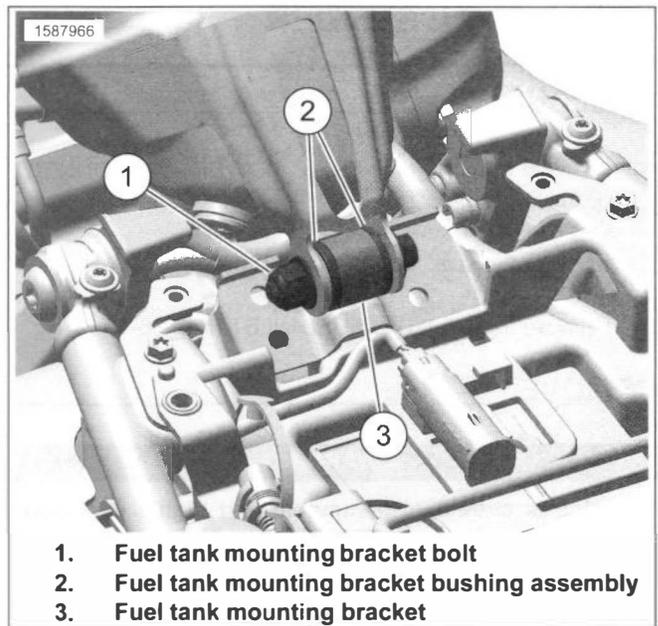
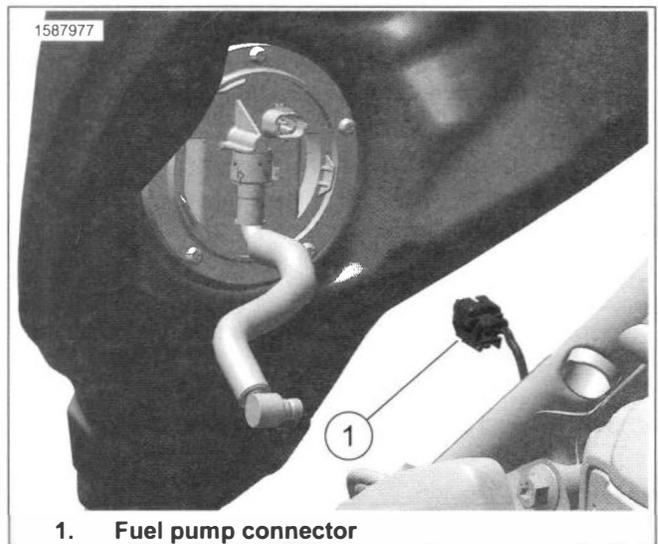

Figure 6-17. Fuel Tank Mounting Bracket
Figure 6-18. Fuel Pump Connector
5. See Figure 6-17. Remove nut (4).
6. Remove bolt (2).
7. See Figure 6-18. Lift rear of fuel tank up.
8. Disconnect fuel pump connector (1).
- a. See Figure 6-18. Connect fuel pump connector (1).
- d. See Figure 6-17. Position fuel tank on mounting bracket (3).
- e. Install bracket bolt (1). Tighten.